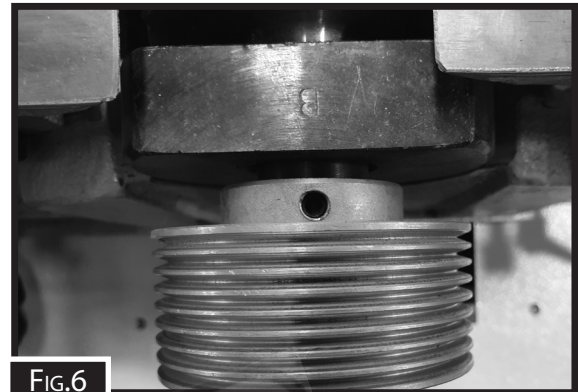

FIG.6
8. Remove belt and remove pulley by unscrewing hex head bolt and loosening grub screw. Then with gear puller remove the pulley, key and spacer washer. (spacer washer only found on P-200H) (Fig.6)